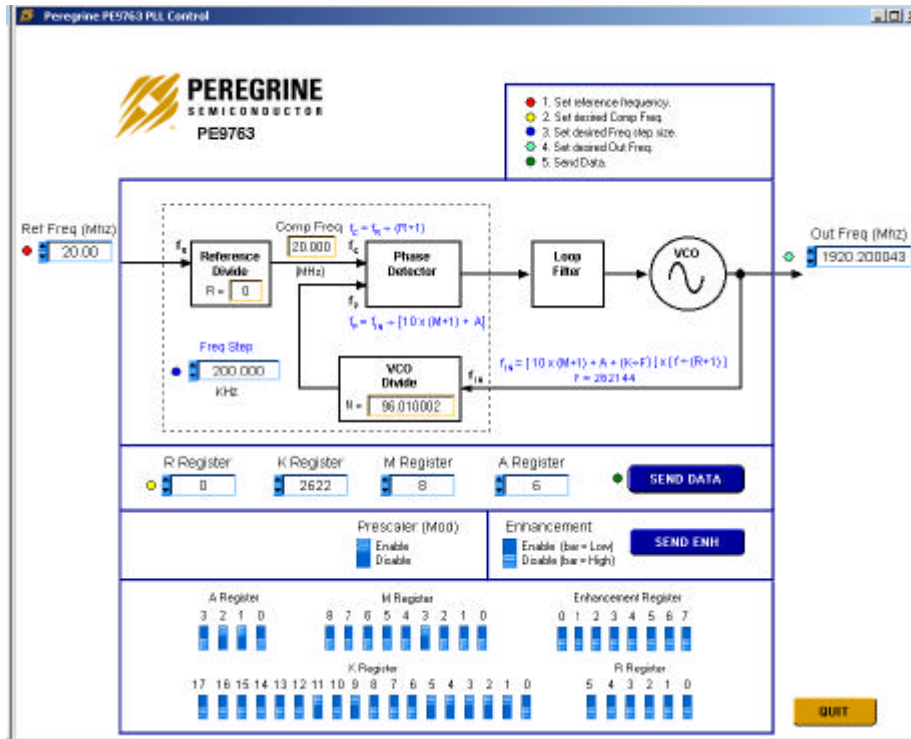

Figure 1. Example of the PE9763 Control Screen.
Once the PE9763 control software is installed and launched, a control screen similar to Figure 1 will appear on the screen. To run the PE9763 using your computer's printer port follow the instructions on the screen as shown on the top-right corner for programming. These instructions are described in detail in the following steps for operation parameter of reference frequency 20 MHz, desired comparison frequency 20 MHz, step frequency 200 kHz and VCO out frequency 1920.200 MHz.
- Step 1: Enter reference frequency ( $f_r$ , crystal frequency) value in MHz into the Ref Freq box (marked by red dot at left). It shows Ref Freq = 20 MHz in Fig. 1.
- Step 2: Set desired comparison frequency ( $f_c$ ) by entering appropriate R value into the R Register box in the middle left side (marked by yellow dot at left). Note that  $R = f_r/f_c - 1$ . Verify the value shown in Comp Freq box is the same as the desired  $f_c$ . Note also that the numbers in the orange boxes are computed values and cannot be directly typed in. It shows  $R = 0$  in Fig. 1.
- Step 3: Enter the desired frequency step in kHz into the Freq Step box. It shows frequency step = 200 kHz in Fig. 1.
- Step 4: Verify that the Prescaler switch is in the default position “Enable” for a normal operation. Switch it to “Disable” position if the prescaler is to be bypassed (disabled). However, the DSM function does not work in this mode. Thus, always leave Prescaler switch is in the default position “Enable”. It shows “Enabled” in Fig. 1.
- Step 5: Verify that the Enhancement selection switch is in the default position “Disable” for a normal operation. It shows “Disable” in Fig. 1.
the screen as well. The A, M and K Register values shown in the bottom section are the binary values of the respected register for information only and can not be changed directly here. The display of the binary values is very helpful for setting the register bit values in the direct mode interface. Click the "Send Data" button to program PLL. Fig. 1 shows the resultant output frequency = 1920.200043 MHz, K = 2622, M =8 and A = 6 with the input Out Freq = 1920.2 MHz.
The Enhancement Register programming can be achieved by clicking "SEND ENH" button with appropriate Enhancement Register bit shown in Fig. 1 at "ON (high)" position. See Table 10 (Page 10) of the PE9763 Datasheet for the enhancement bit function. The Enhancement mode can then be enabled by switching the Enhancement switch in Fig. 1 to "Enable" position plus setting Switch S6 #5 (ENH) on the evaluation board to "OFF" position at the same time because either one of them can disable the Enhancement mode. Note that the Enhancement switch puts the enhancement control line output from the computer to High or Low instantaneously when the switch is switched to "Disable" or "Enable" position, respectively, without clicking SEND ENH or SEND DATA.
The enhancement register bit values are unknown during power up. To avoid enabling the enhancement mode during power up, set the Enhancement switch in Fig. 1 to "Disable" position and/or setting Switch S6 #5 (ENH) on the evaluation board to "ON" position until the enhancement register bit values are programmed to a known state. The Enhancement selection switch is in the default position "Disable" for a normal operation.
Direct mode programming can be evaluated manually without the application software enabled. However, it is handy to have software show the R, K, M and A Registers values in both decimal and binary as shown in Fig. 1. The counters can then be set directly with the on-board switches (S1-S6) according to the binary display of the R, K, M and A Registers values in Fig. 1. To enable direct mode programming, both the ENH (Switch S6 #5) and the Direct (Switch S1 #7) DIP switches should be turned on as shown in Figure 5.